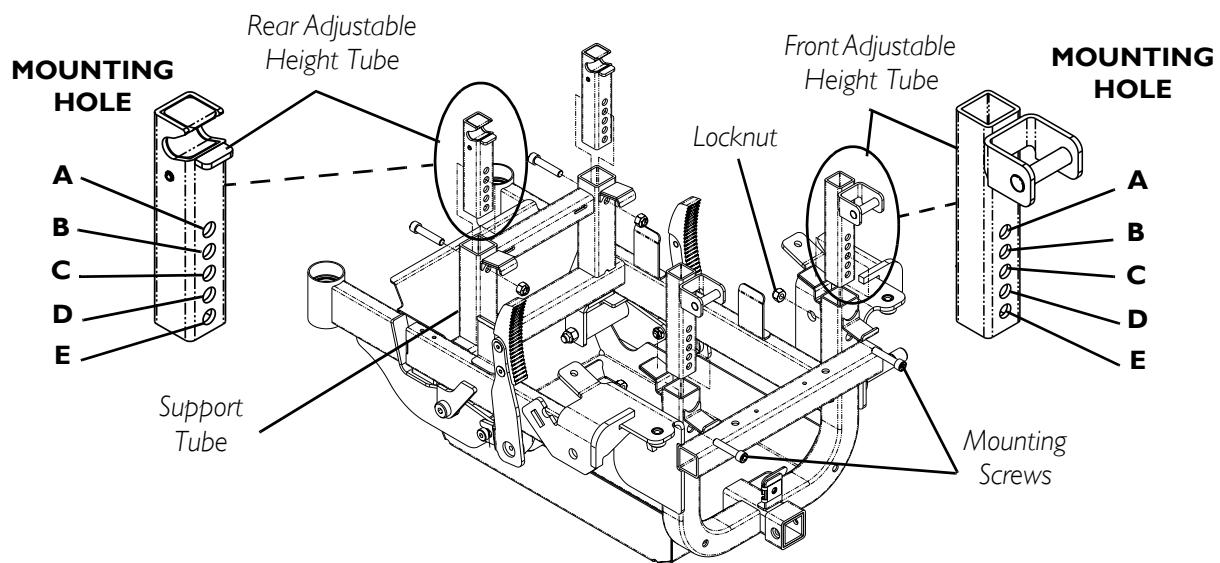

FIGURE 7.5 - ADJUSTING THE SEAT HEIGHT
NOTE: For this procedure, refer to FIGURE 7.5.
4. Reinstall mounting screw and locknut (FIGURE 7.5). Securely tighten.
5. Repeat STEPS 2-4 for the three (3) remaining adjustable height tubes.